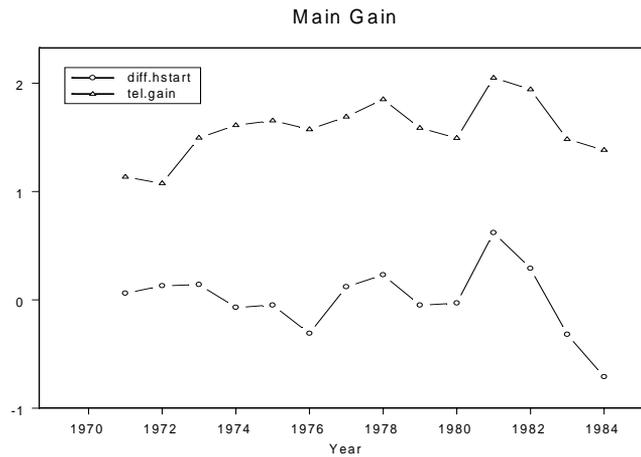

Figure 3.28: Yearly time series plot of tel.gain and diff.hstart.
- Click the **Isolated Points** button  on the **Plots 2D** palette. The resulting plot is shown in Figure 3.28.